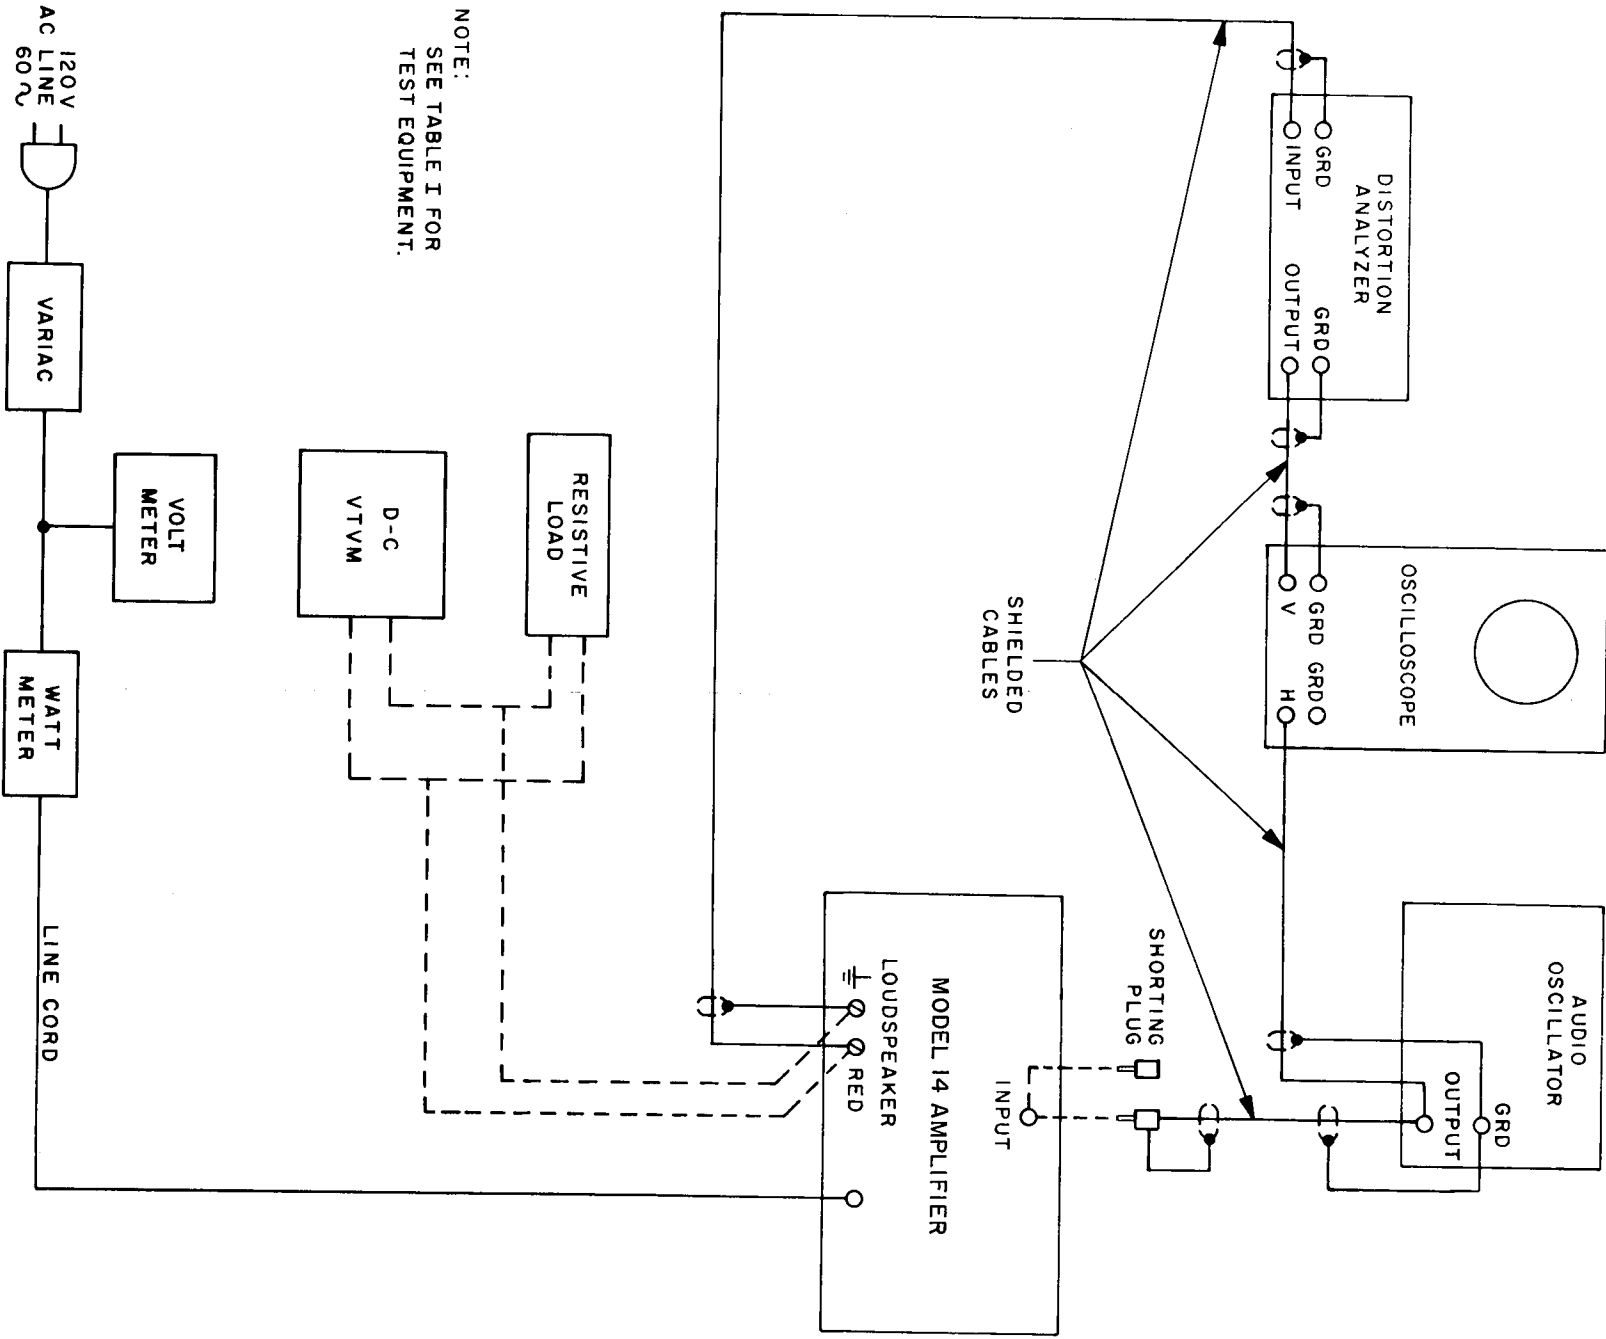

Figure 3. Performance Verification Test Set-Up
1. Set up the amplifier module to be tested and the test equipment as shown in figure 3.